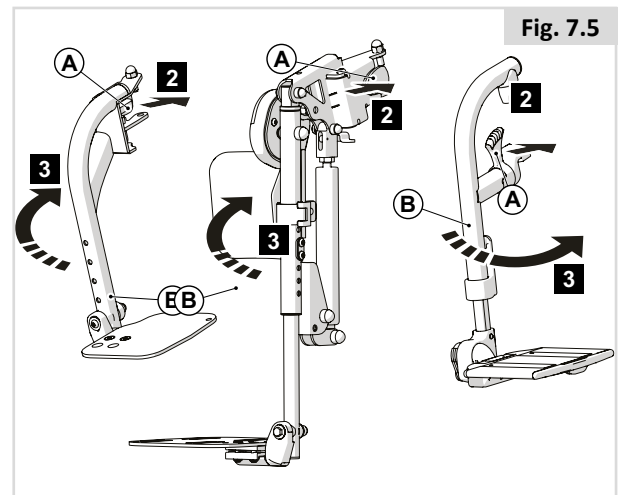

Fig. 7.5
7.3 Swing away legrests (Fig 7.5)